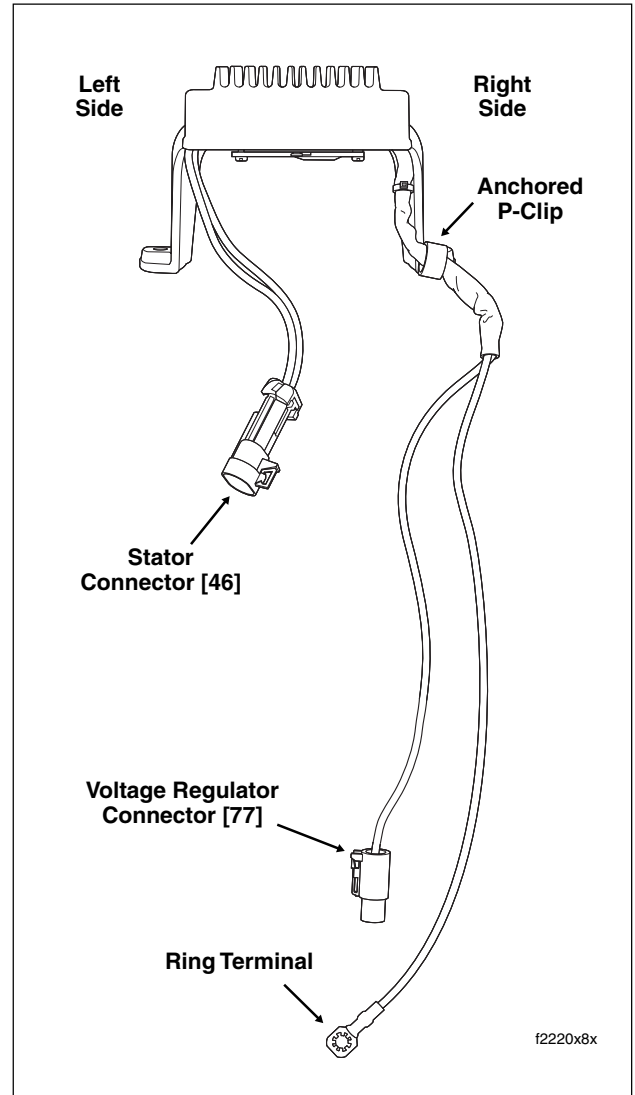

Figure 8-18. Voltage Regulator (Rear View)
9. Remove locknuts from studs on lower frame crossmember. Lift voltage regulator off studs to remove from motorcycle. Note that right side P-clip is anchored to leg of voltage regulator. See Figure 8-18.